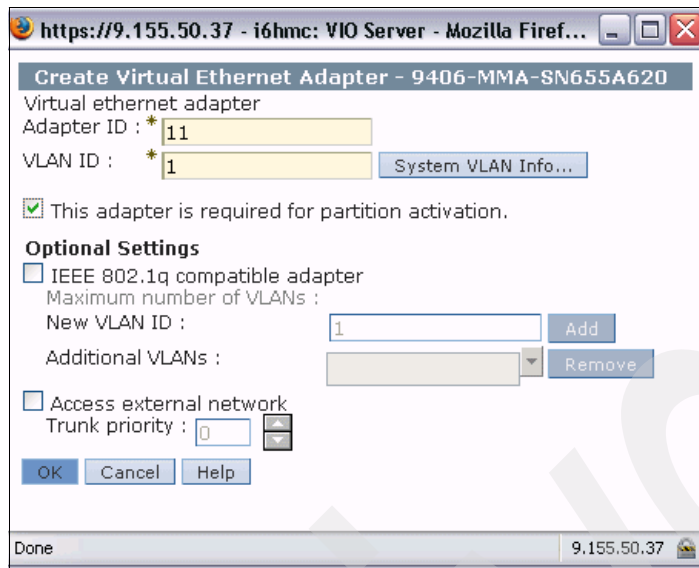

Figure 6-11 Create Virtual Ethernet Adapter dialog
9. In the Create Virtual Ethernet Adapter dialog we accept the suggested values for the adapter ID of 11 and the VLAN ID of 1, check mark **This adapter is required for partition activation**, and select **OK** to proceed, as shown in Figure 6-11.